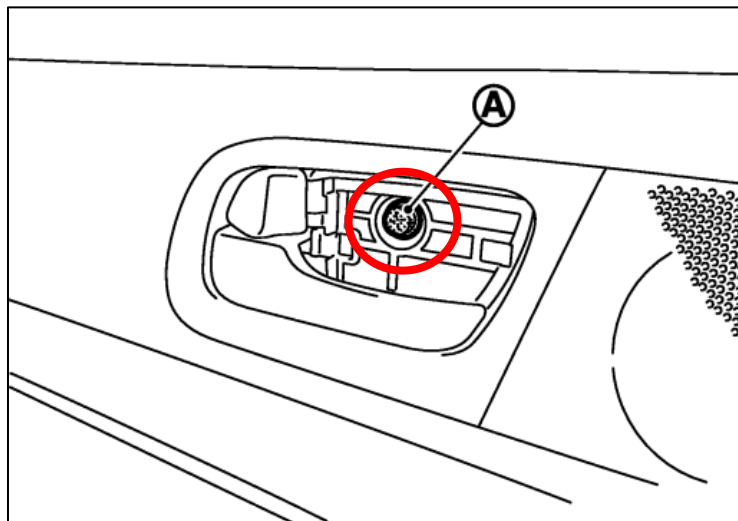

Figure 66
3. Remove the (1) one 10mm Bolt behind the Trim Piece that was just removed. *Figure 66.*